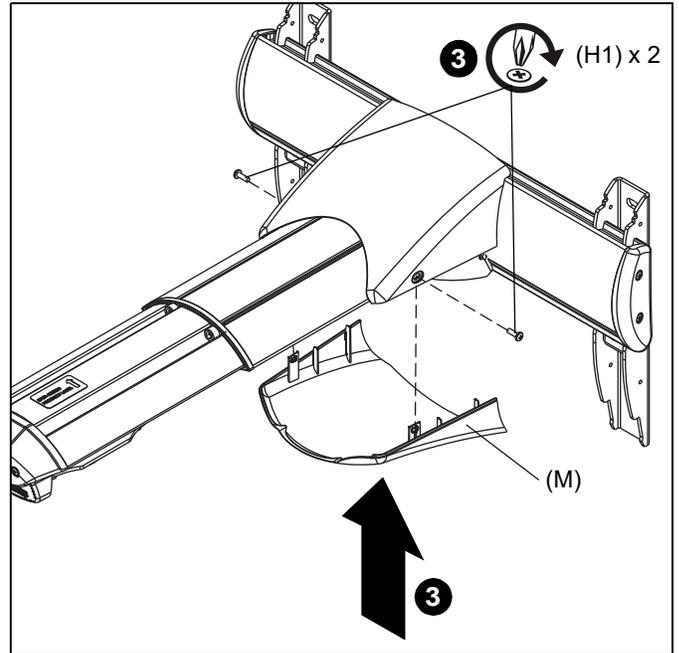

Figure 57
3. Raise the lower cover (M) to the projector mount and fasten through upper cover (L), lower cover (M) and into wall mount with two 8-32 x 1/2" Phillips pan head screws (H1). (See Figure 57)